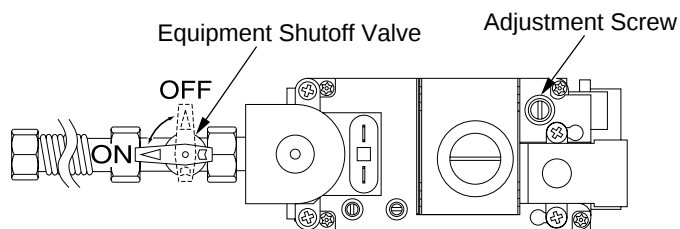

Figure 48 - Turning Equipment Shutoff Valve to the OFF Position
5. Turn equipment shutoff valve clockwise  to the OFF position (see Figure 48). Do not force.
6. Wait five (5) minutes to clear out any gas. Then smell for gas, including near the floor. If you smell gas, STOP! Follow "B" in the safety information above. If you don't smell gas, go to the next step.
- Turn the adjustment screw marked PILOT clockwise to decrease or counterclockwise to increase the flame to proper size (see Figure 48, page 25). Do not remove the adjustment screw.